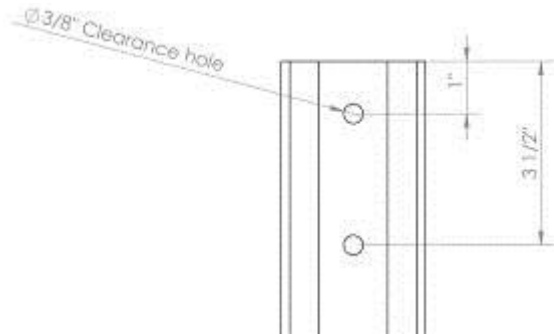

Fig. 4
- 12) Mark and drill the cut ends of the pivot tubes to accept the 45° elbows (see Fig. 4).
- 1) Drill one end of both of the 96" long pivot tubes per Fig. 4.